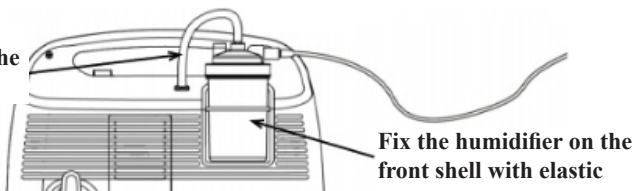

Figure 6
- b. Use the elastic humidifier strap to affix the humidifier bottle on the back case of the oxygen concentrator, connect one end of the humidifier bottle connecting pipe to the humidifier bottle air inlet, and the other end to the oxygen output port of the oxygen concentrator (refer to Figure 6*).